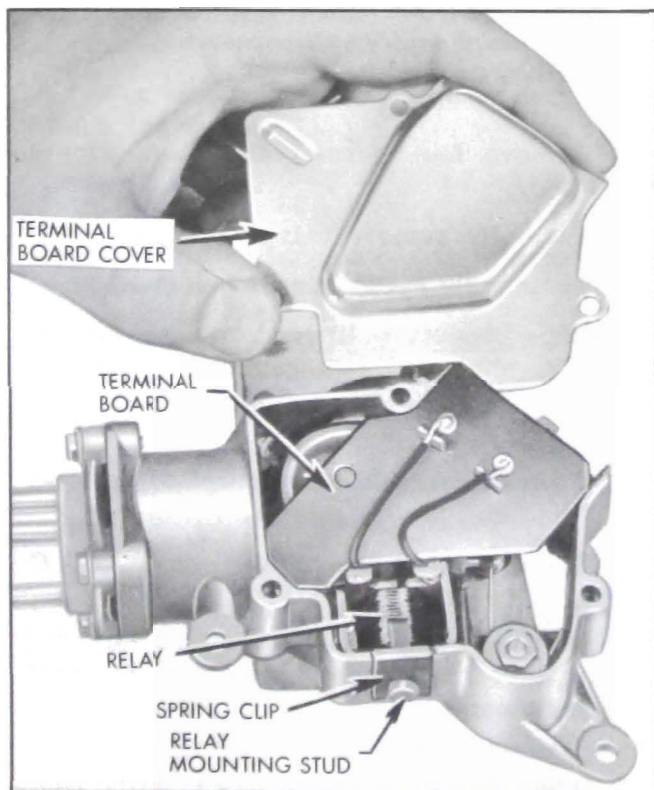

Figure 13-18—Washer Pump - Cover Side
1. Remove relay terminal board cover. See Figure 13-18.
2. Slide spring clip off relay mounting stud. See Figure 13-18.